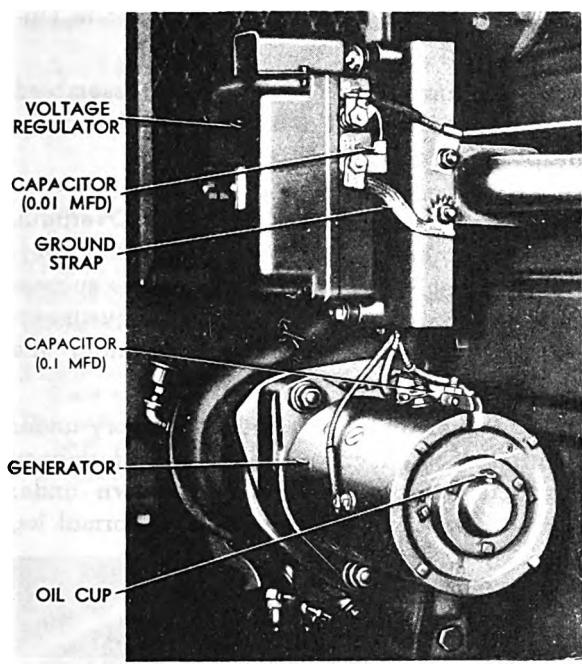

Fig. 193. Generator and Voltage Regulator
(4) Mount the voltage regulator to the bracket, using the rubber mountings between the bracket and the regulator. (See Figure 193.)
(3) Set the water by-pass line in place with the gaskets shellacked to the two mounting flanges. Tighten the two capscrews and the two bolts.
(4) Shellac the water inlet manifold gaskets to the cylinder block. Push the three copper distributor tubes in place. Install the water inlet manifold. (See Figure 61.) If the water inlet manifold spacer and spacer inlet connection have been disassembled from the inlet manifold, assemble to the manifold. Be sure to slip the water pump to manifold hose and clamps onto the inlet connections before assembling to the spacer and manifold. (See Figure 61.) Install the voltage regulator and bracket onto the inlet manifold spacer. (See Figure 193.) Connect the electrical leads between the regulator and generator, the G— of the regulator to the G— of the generator, etc. Ground the B— of the regulator to the bracket. (See Figures 66 and 193.)